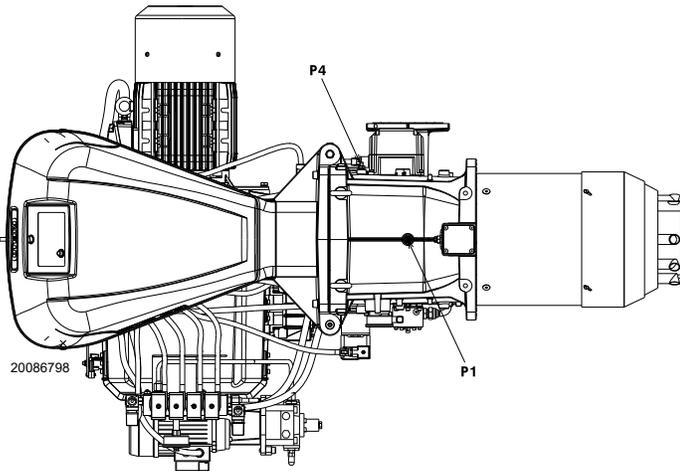

Fig. 19
Gas pressure measured at the test point 1)(Fig. 19), with:
- subtract the combustion chamber pressure from the gas pressure measured at test point 1)(Fig. 19);
- Gas pressure at test point 1)(Fig. 19)=11.7 "WC